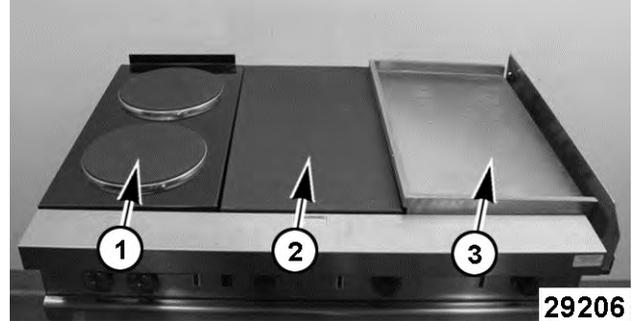
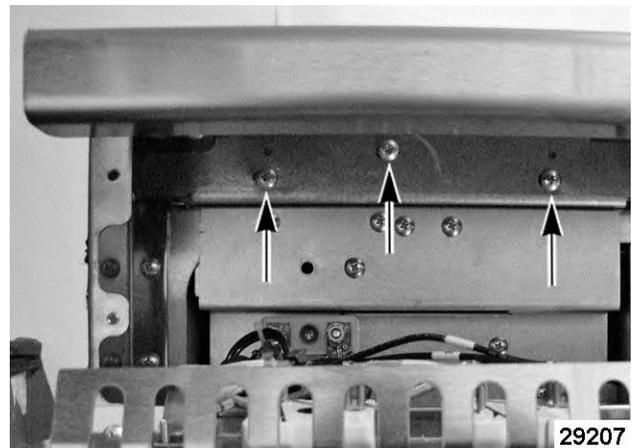
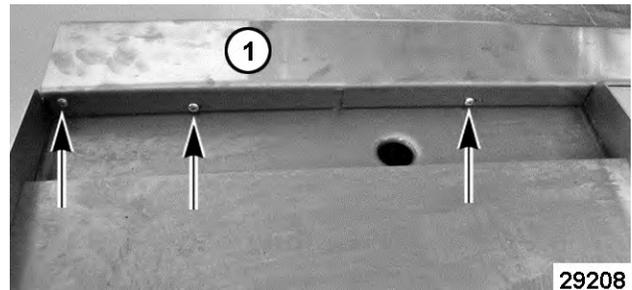

Fig. 6
Fig. 7
Fig. 8
- A. French Plate (1, Fig. 6) - Remove screws securing French Plate (Fig. 7) to frame.
- B. Hot Top (2, Fig. 6) - Remove screws securing bull nose (1, Fig. 8) to frame then lift bull nose off range.
- C. Griddle (3, Fig. 6) - Remove screws securing bull nose (1, Fig. 8) to frame then lift bull nose off range.